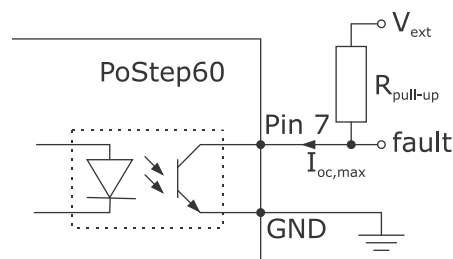

Figure 2: Fault feedback pin connection diagram
*Fault feedback signal is an open-collector signal. External pull-up resistor is needed to function properly (please see Figure 2). For input and open-collector output limiting values please refer to Section 6 - Technical specifications.